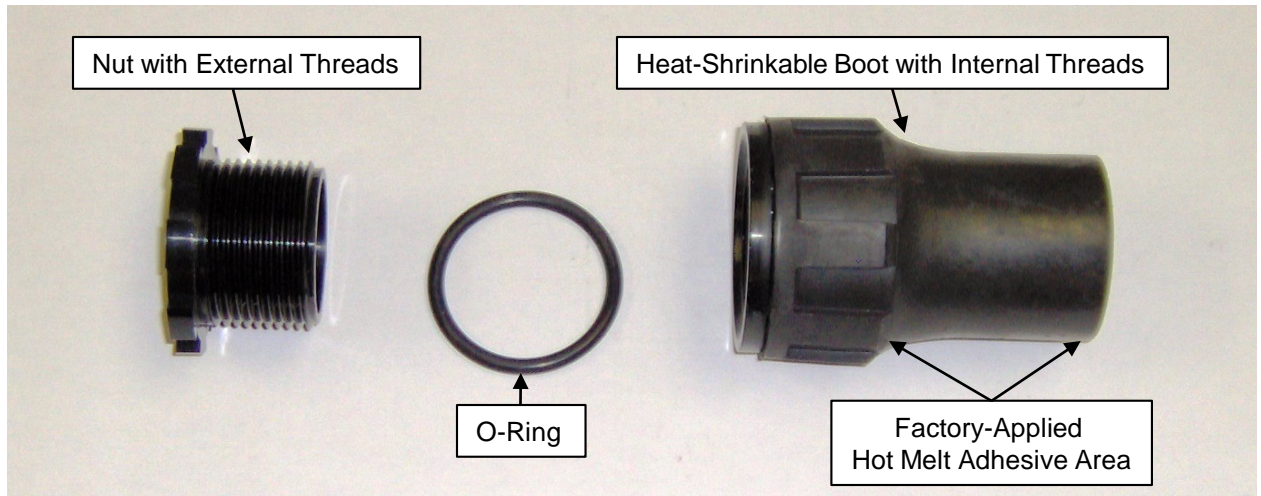
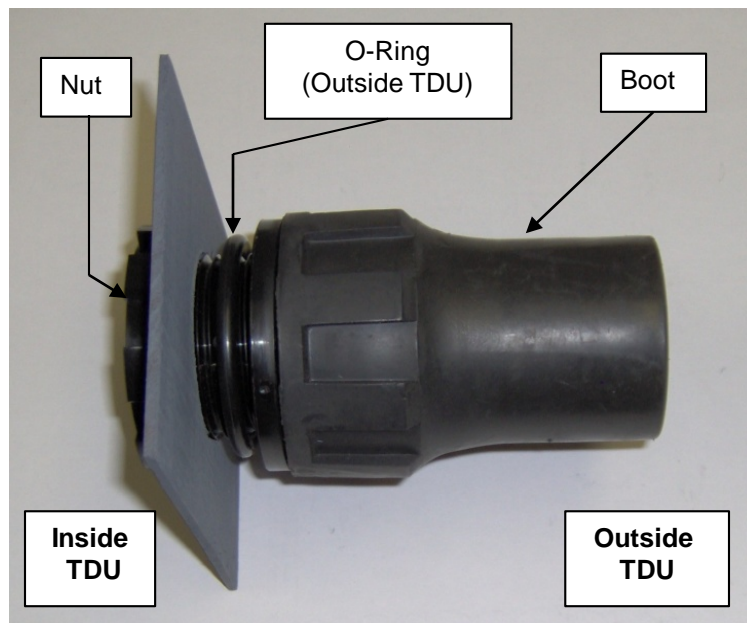

Figure 1
Figure 2
5.1 **See Fig. 1 and Fig. 2** for Heat-Shrinkable Cable Entry Seal layout.